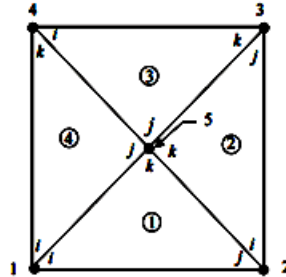

Figure 4
9. For a two dimensional heat transfer in a square slab shown in figure 4, each element equilibrium equation are given by the same expression. All the edges are maintained at zero degree temperature. What is the final form of equations after assembly and incorporating the boundary conditions? [10]